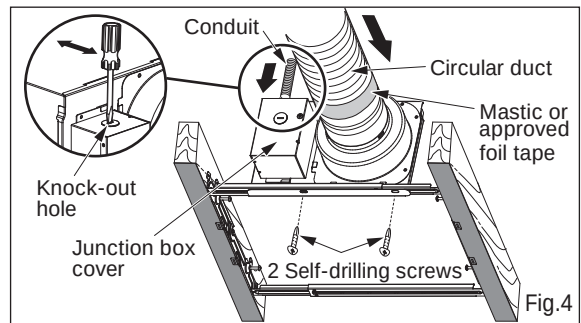

Fig.4
4. Remove junction box cover and secure conduit or stress relief to junction box knock-out hole. (Fig.4)
5. Install a circular duct and secure it with clamps, or ties and seal it with mastic or approved foil tape. A 4 or 6 inch circular duct is needed to connect to relevant part of adaptor. (Fig.4)
6. Install the adaptor to Flex-Z Fast™ bracket by using 2 self-drilling screws. (Fig.4)